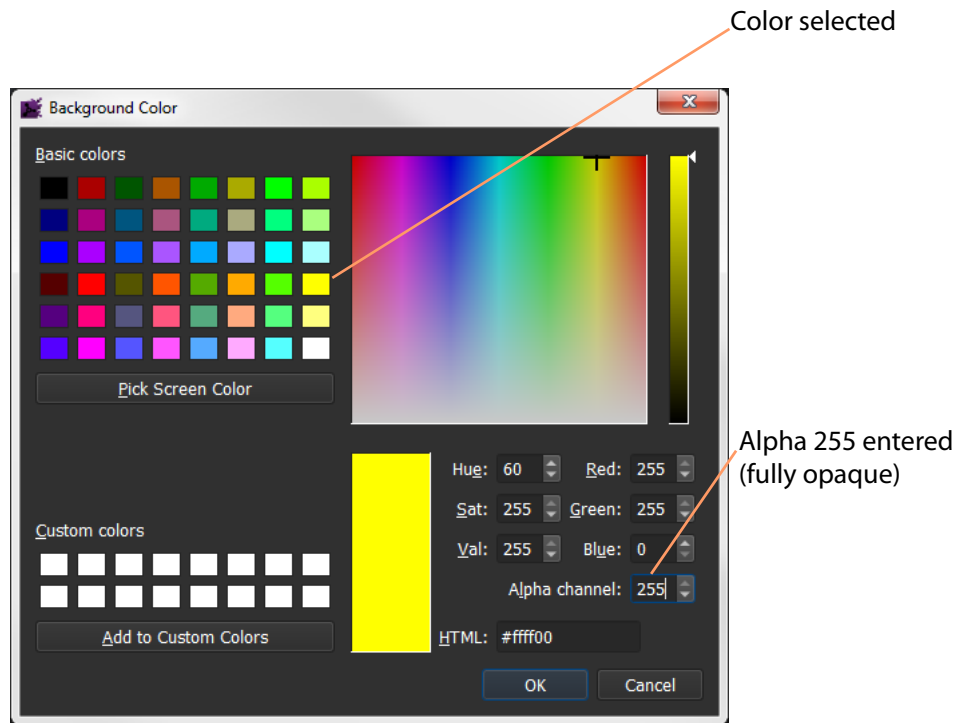

Fig. 6-84: Color Picked
- 5 Click on the **...** icon to show the **Background Color** dialog. See Figure 6-84 on page 250.